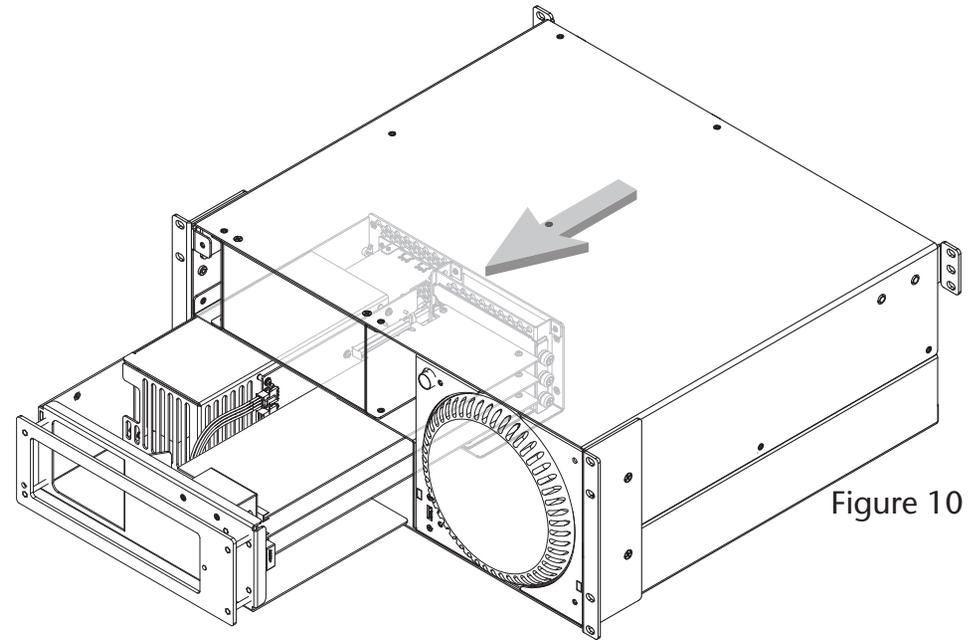

Figure 10
5. Gently pull out the PCIe card expansion module through the front of the enclosure, and then set it aside (**Figure 10**).